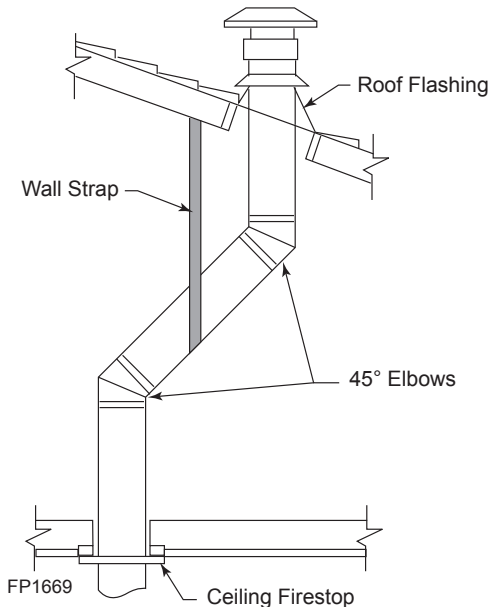

Figure 19 -
1. Determine the route your vertical venting will take. If ceiling joist, roof rafters or other framing will obstruct the venting system, consider an offset. Refer to Figure 19 to avoid cutting load bearing members.